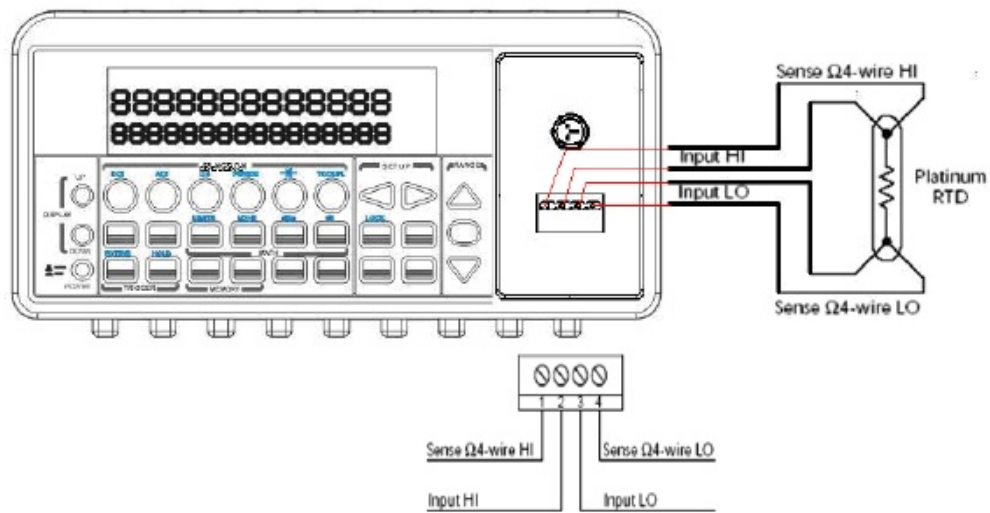

Figure 3-18
- ① Use terminals switch to select front terminals.
- ② Insert a specified adapter into the front terminals. Connect the low thermal patch leads to the adapter as shown in **Figure 3-18**.
- ③ Configure sensor type, transducer (4W) and unit using CONFIG + TEMP and \triangleleft or \triangleright . When ready, press ENTER button. For more information, refer to the section 4.1.8.
- ④ Press TEMP button.
- ⑤ Place RTD in the desired position and take the reading on the display.